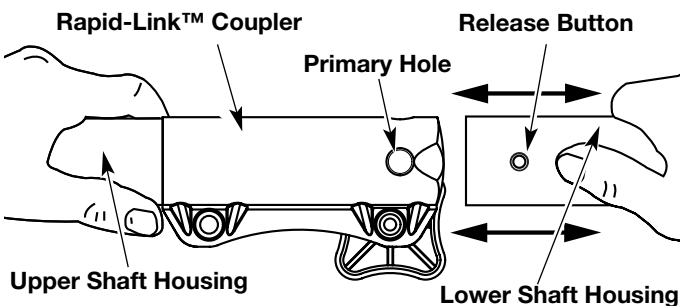

Fig. 16
3. While firmly holding the upper shaft housing, pull the cutting attachment or add-on straight out of the Rapid-Link™ coupler (Fig. 16).
2. While firmly holding the add-on, push it straight into the Rapid-Link™ coupler (Fig. 16).